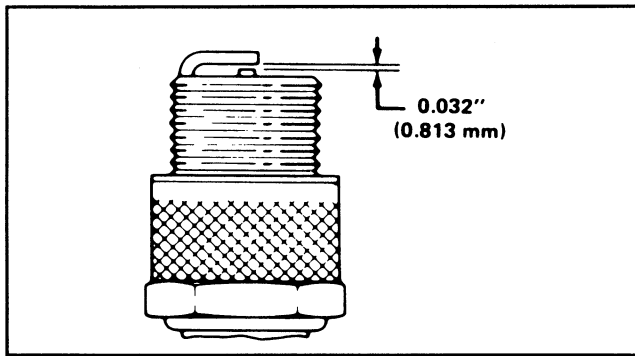

Figure 17
3. INSTALL SPARK PLUG — Set air gap (Fig. 17) between electrodes at .032" (.81 mm). Install plug and tighten to 15 ft-lb (20.4 N.m). If torque wrench is not used, tighten plug firmly. Push wire onto spark plug and reinstall control panel with (3) capscrews.